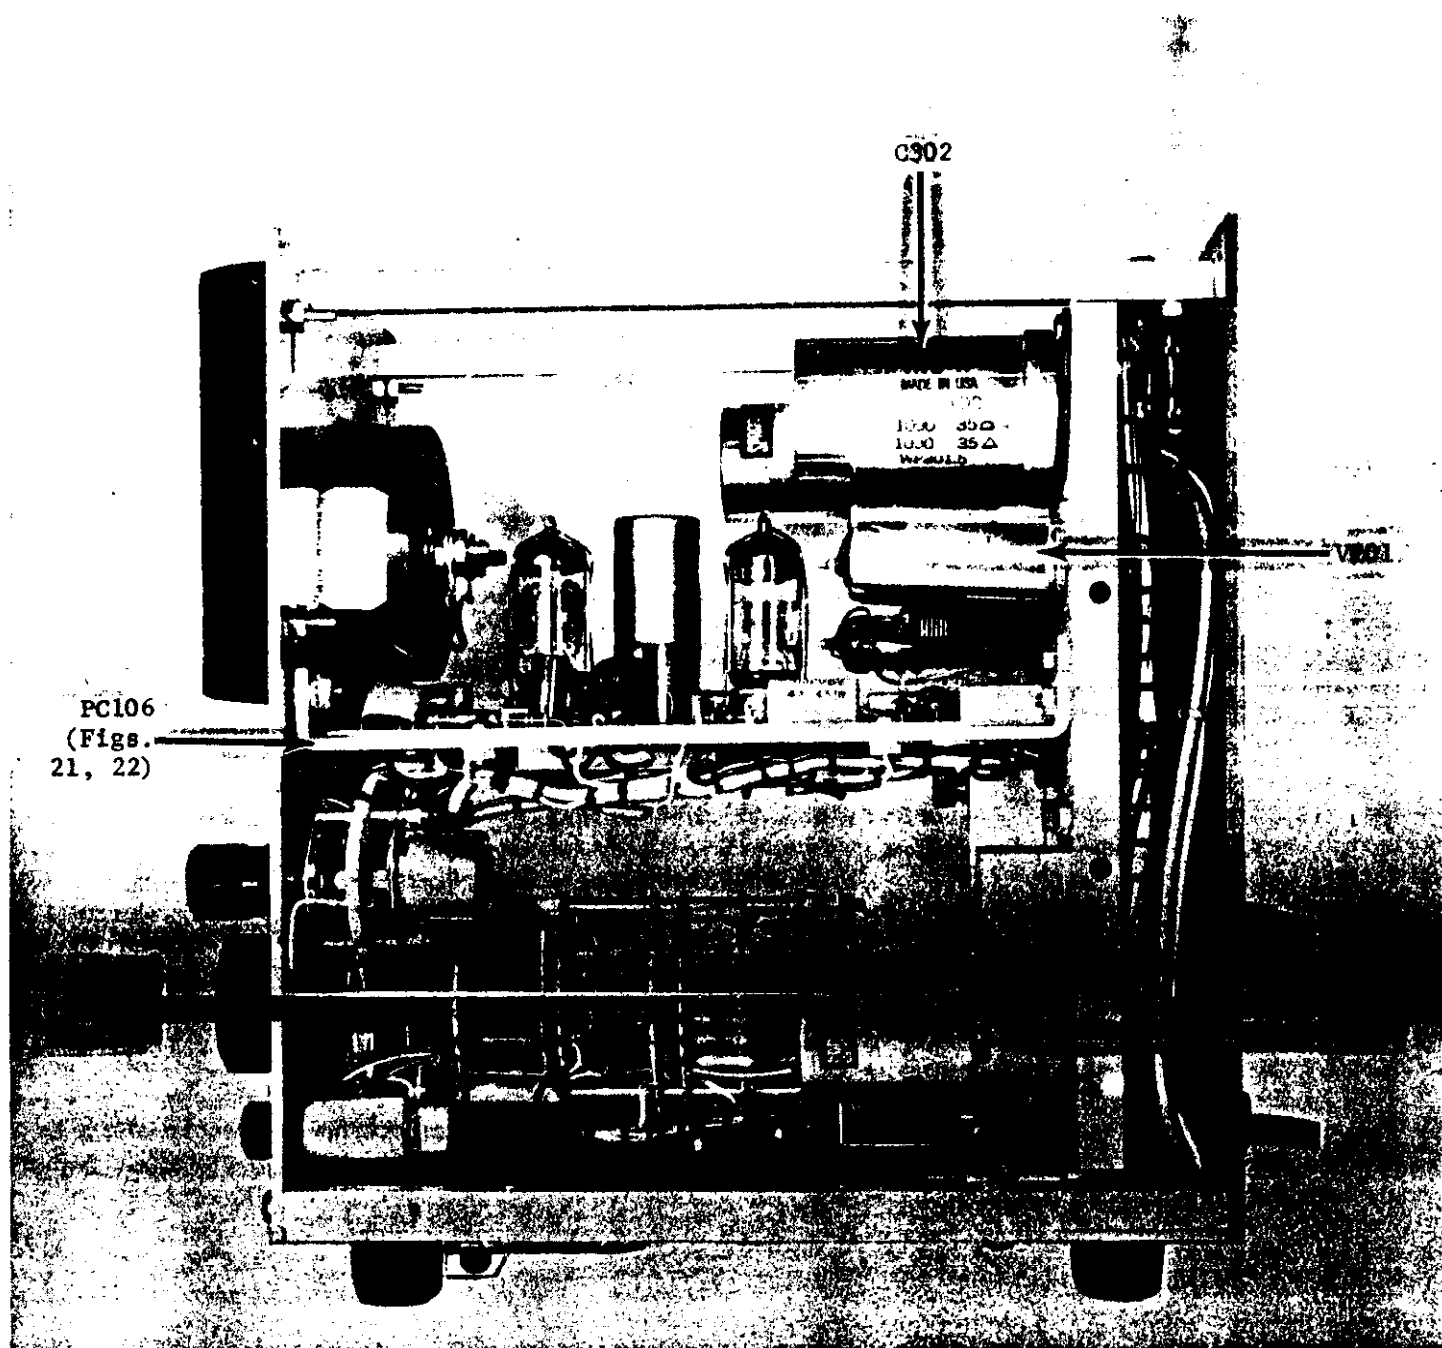
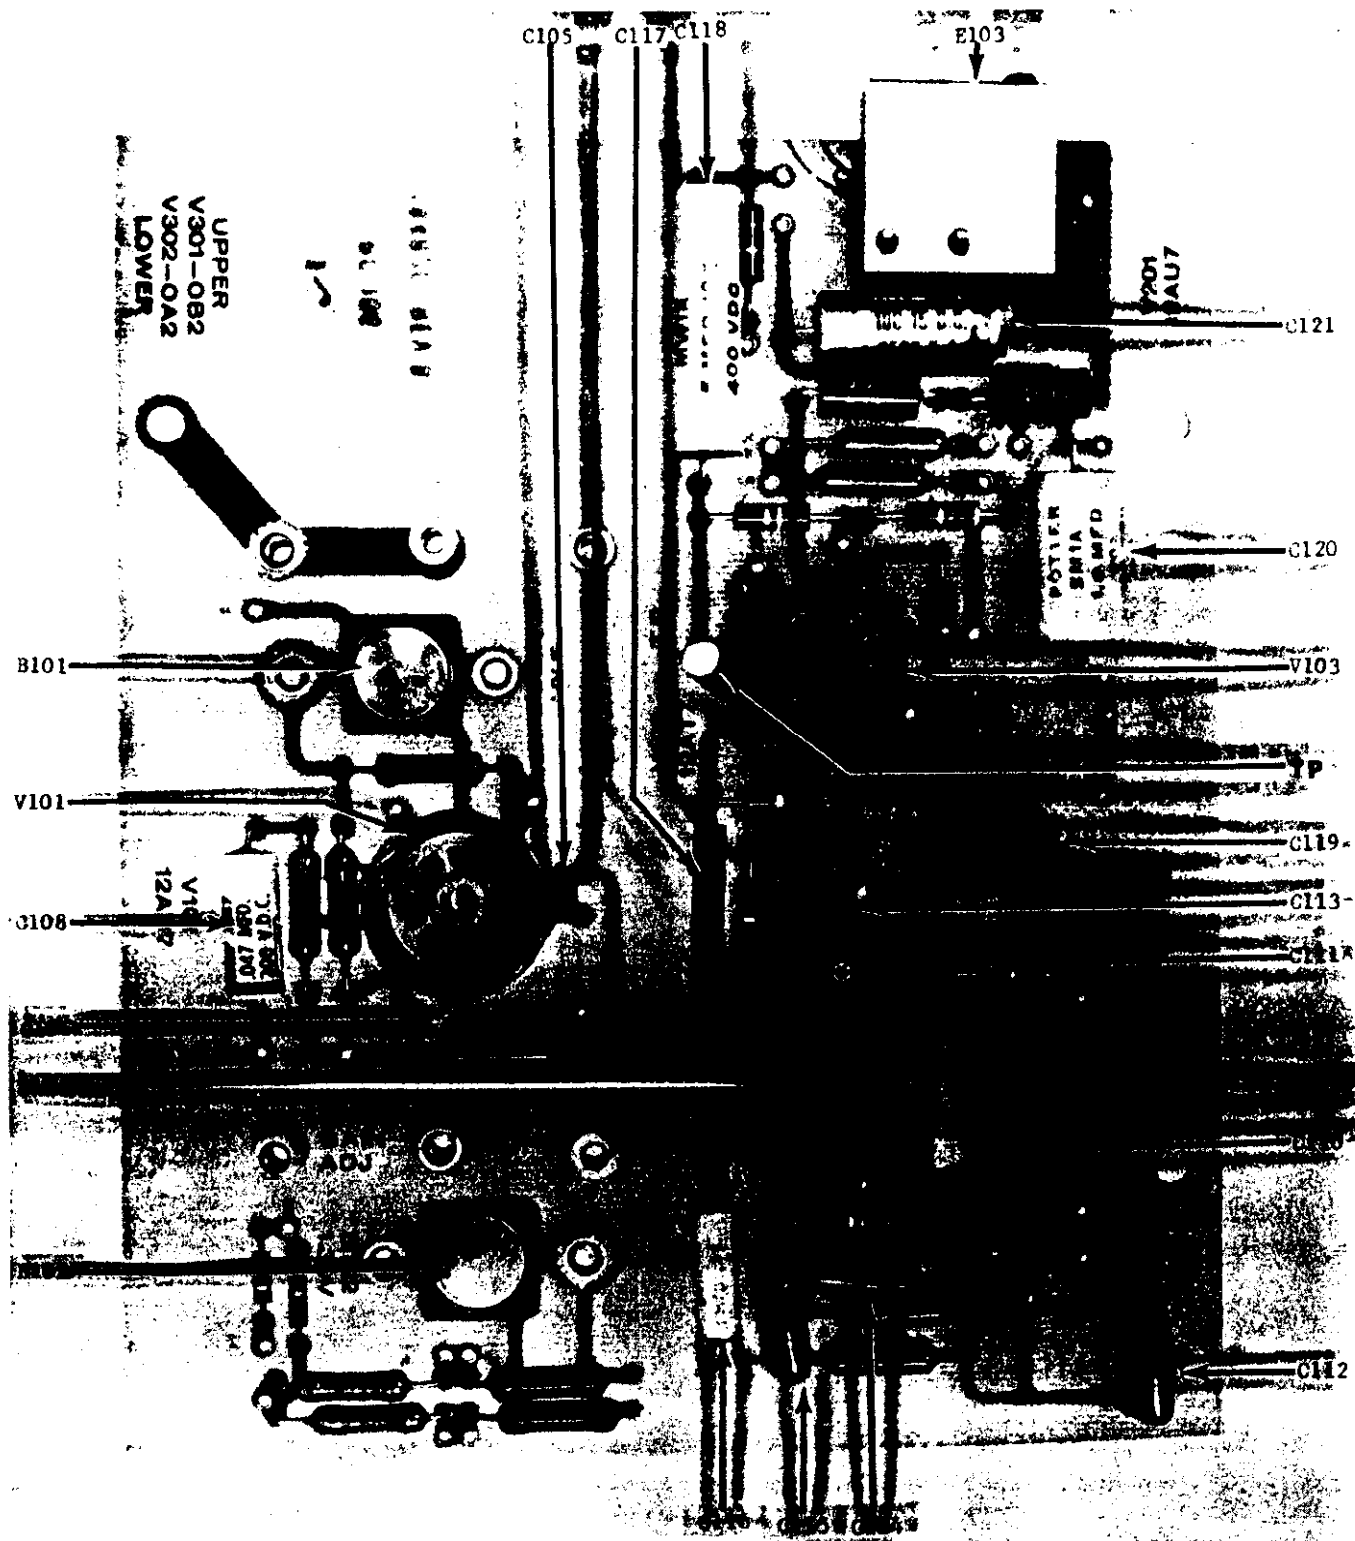
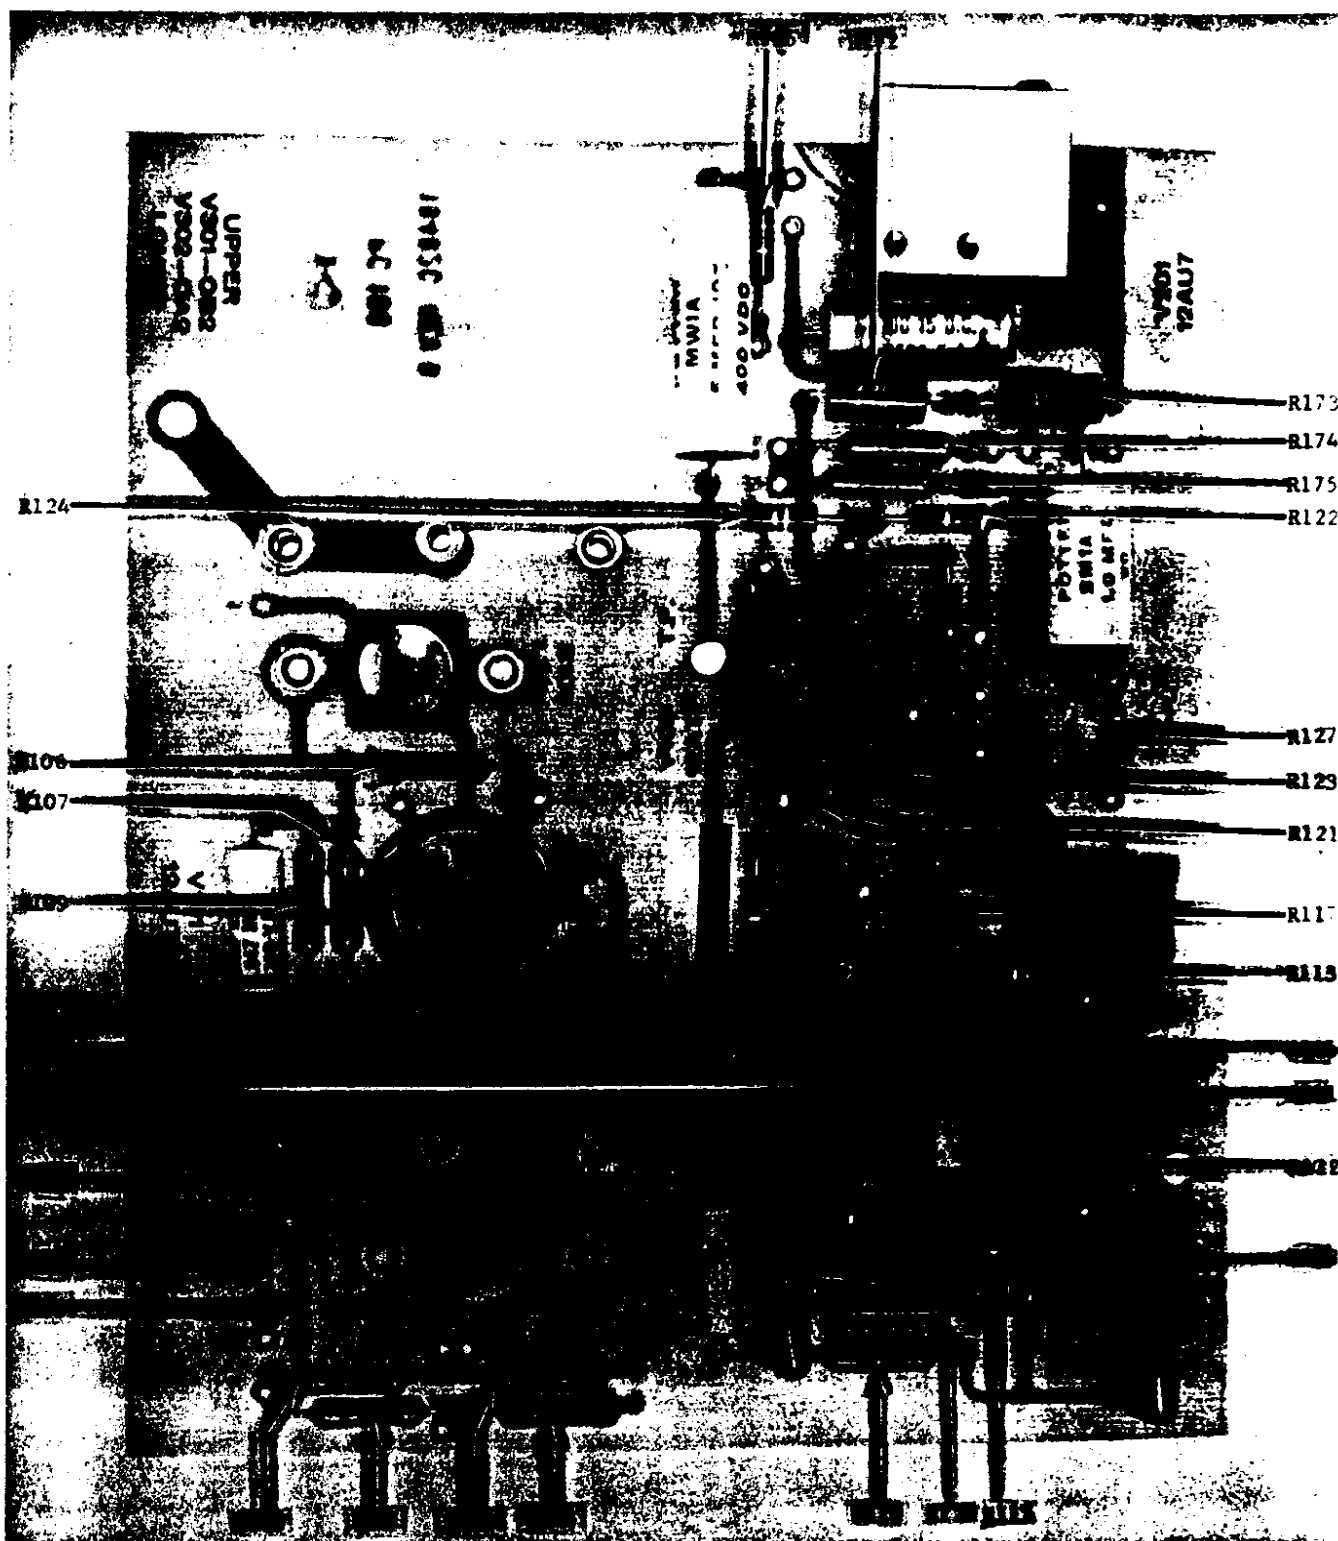

FIGURE 19. Model 153 Interior. Components and assemblies are shown in the view with the meter facing left. Figure 20 shows the chassis view from the other side.
FIGURE 21. Capacitor, Tube, Battery and Modulator Locations on Printed Circuit Board PC106. Refer to Figure 22 for resistor locations.
FIGURE 22. Resistor Locations on Printed Circuit Board PC106. Refer to Figure 21 for the location of other components.
FIGURE 14. Wave Form of Multivibrator Output. Oscilloscope was attached to pin 1 of tube V201A (Figure 19). Vertical setting is 100 volts/cm; horizontal, 5 msec/cm.
b. Place the resistor divider from either plate of tube V201 (Figure 19) to ground. See Figure 13. Connect the output of the divider to the grid of tube V102A (Figure 21). Monitor the output across resistor R121 (Figure 22) with the Type P6006 Probe.
a. Remove the divider of Figure 13; remove tube V101 (Figure 21). Short the feedback network to ground; see paragraph 5-8b. Set the RANGE Switch to 1 VOLT. Use the Model 260 Nanovolt Source to apply a +1 volt input signal to the Model 153. Use the Type P6006 Probe with the Oscilloscope to monitor the signal at pin 2 of tube V101 (Figure 21). A typical wave form is shown in Figure 16 for a properly functioning modulator E101 (Figure 23). The wave should be a minimum of 700 millivolts peak-to-peak average value (70 millivolts using the 10:1 Probe).
b. Short the feedback network on the Model 153 by connecting the rear deck of the RANGE Switch, S1 (Figure 19), to the circuit low terminal of the INPUT Receptacle. Set the METER Switch to +, the FUNCTION Switch to OPEN, and the RANGE Switch to 30 MILLIVOLTS. Apply an input signal to the Model 153, using the Model 260, sufficient to obtain a full-scale meter reading; normally this will be between 300 and 400 microvolts. Set the METER Switch to - and repeat this procedure. Average the value of the two input voltages necessary to drive the meter to full scale. If the average is between 300 and 430 microvolts, the loop gain of the Model 153 amplifier is between 100 and 70. If the average is less than 300 microvolts, add resistor, R110 (Figure 22), to decrease the gain. If the average is greater than 430 microvolts, the gain is too low.
b. Apply the step function for the 1-millivolt and higher ranges. Note the motion of the meter. If the meter shows uneven travel to full scale, increase the value of resistor R127 (Figure 22) to obtain a smooth motion.
FIGURE 20. Model 153 Interior. Components and assemblies are shown in the view with the meter facing right. Figure 19 shows the chassis view from the other side.